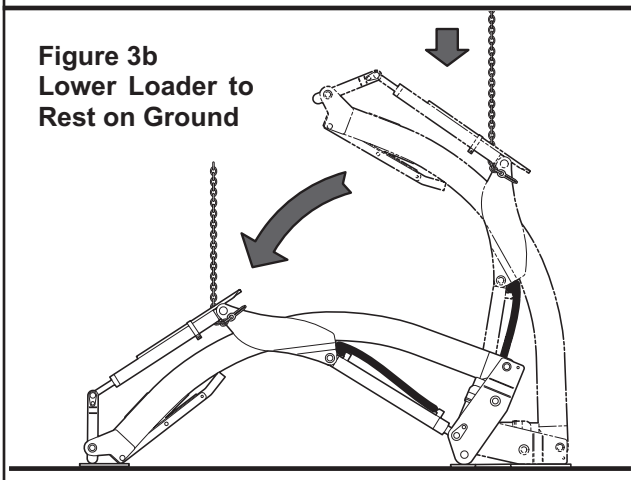

Figure 3b
4. Lower loader from vertical shipping position to horizontal, positioning scraps of cardboard on floor under loader to protect loader paint (see Figure 3b). Install canister for owner's manual to inside of left loader upright.